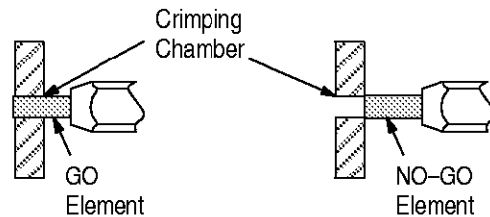

Figure 4
This inspection requires the use of plug gages conforming to the dimensions provided in Figure 4. Tyco Electronics does not manufacture or market these gages. To gage the crimping chamber, proceed as follows:
3. Align the GO element with the appropriate section of the crimping chamber. Push element straight into the crimping chamber without using force. The GO element must pass completely through the crimping chamber as shown in Figure 4.
4. Align the NO-GO element and try to insert it straight into the same section of the crimping chamber. The NO-GO element may start entry, but must not pass completely through the crimping chamber. See Figure 4.
- Added statement to Figure 4: "Gage to be used at position 1 of insulation adjustment"